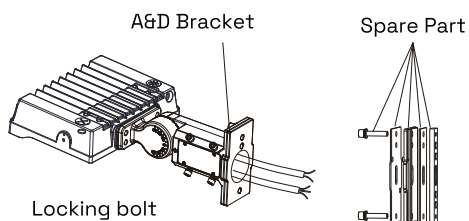

Fig 4.1
Step 1: Remove the spare parts from A&D bracket Figure 4.1
Step 3: Place the bracket into the pole and lock the four bolts. Figure 4.1